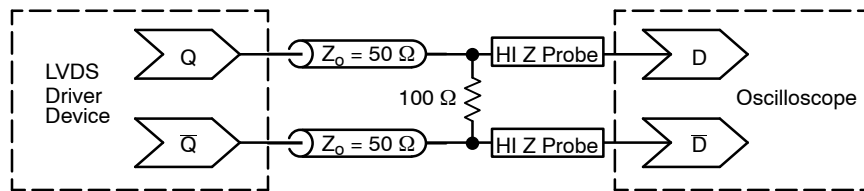

Figure 6. Typical LVDS Termination for Output Driver and Device Evaluation
7. LVDS outputs require $100\ \Omega$ receiver termination resistor between differential pair. See Figure 6.